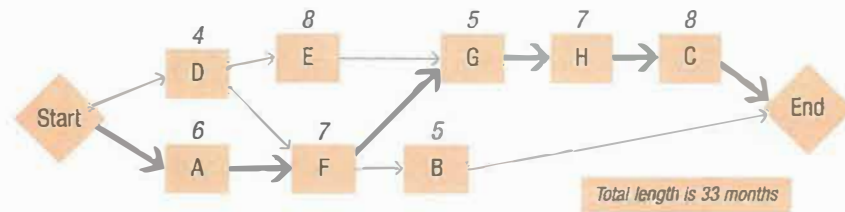

FIGURE 8.16 Which activity would you fast track?
**Think About It.** Which activity in figure 8.16 would you fast track to shorten the project?
**Example** In the network diagram in figure 8.16, a contracted resource could supplement the internal resource's efforts on a critical path activity. Another option to crash the project might be to buy a software application. This assumes either option adds cost but helps the team save time.
Many project managers have gaps in their knowledge in this area. Let's review another scenario. Figure 8.16 shows that a project duration is estimated to be 33 months. But what if you're given a constraint of 30 months? Options are listed in the following table to illustrate how the project duration may be shortened by three months.